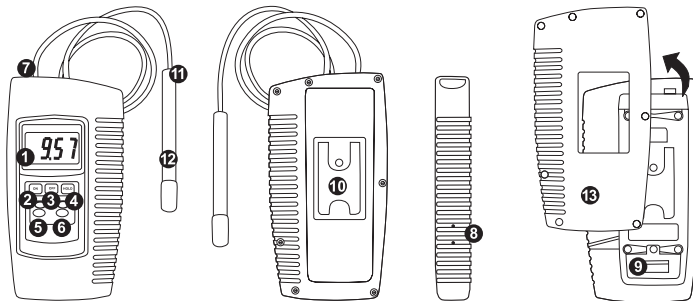

Figure 1
1. Connect the Conductivity Electrode (Figure 1, 12) to the Electrode. Input Socket (Figure 1, 7).
3. Select the 2 mS/cm or 20 mS/cm range by pressing the appropriate range button (Figure 1, 5 or 6).
4. Holding the electrode handle (Figure 1, 11), immerse the conductivity electrode completely in the sample. Shake the electrode several times to remove air bubbles from the electrode and therefore ensure stable readings. The instrument will display the conductivity value in mS/cm.
2. Select the 2 mS/cm range (Figure 1, 5).
3. Holding the conductivity electrode by its handle (Figure 1, 11), immerse it completely in the calibration solution. Shake the electrode to disperse air bubbles on it and allow measurements to stabilise. Adjust „Calibration Adjust LR” (see above) until the display reads exactly 1.413 mS/cm.
2. Remove the protective cover before replacing the battery. To replace the battery, remove the Battery Compartment Cover (Figure 1, 9) on the rear of the meter.